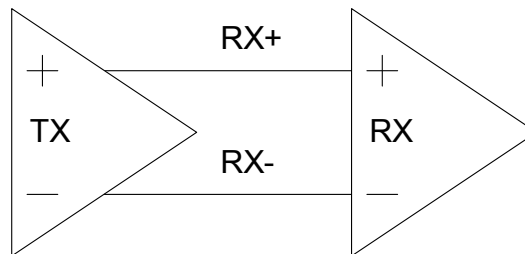

Figure 17. DC Coupled Connection
The fault detection across DC coupled connections can be detected with any one of the AC JTAG or (DC) EXTEST commands. The DC coupled connection is shown in Figure 17. The fault signature is listed in Table 28.